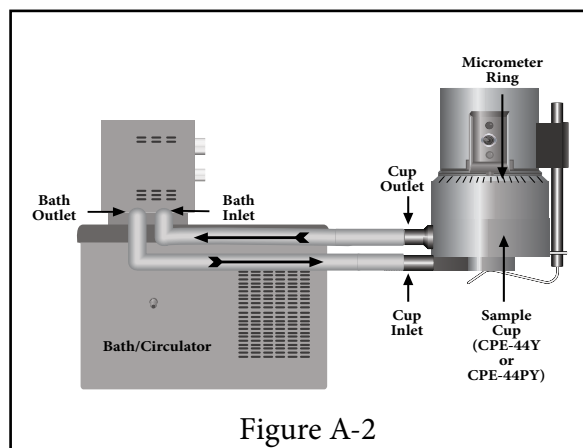

Figure A-2
2. **Figure A-2** shows a typical water bath setup. Connect the sample cup inlet/outlet ports to the water bath inlet and outlet and set the bath to the desired test temperature. Allow sufficient time for the bath to reach the test temperature. The temperature range of the Sample Cup (CPE-44Y or CPE-44PY) is 0°-100°C. Brookfield AMETEK recommends a maximum temperature of 80°C to allow for direct hand contact for adjustment of the micrometer ring. When using the sample cup at temperatures near 0°C, be careful to avoid frost buildup on the top surface of the cup; this could prevent a proper fit with the micrometer ring. Please refer to the bath manual for the proper selection of bath fluid and tubing to ensure safe and proper operation.